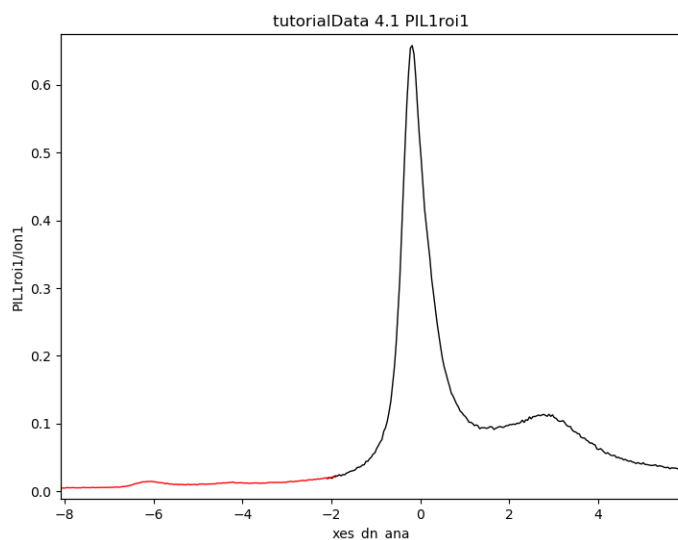

Figure 3-4: A plot showing both a $K\beta$ mainline and VtC spectrum.
- 6) Valence-to-core (VtC) spectra, on the other hand, tend to be a factor of 50 – 100x lower in intensity as compared to K β mainlines. For an illustration of this, click on scan 4 and then hit the “Replace” button in panel C to plot only a single K β mainline. Next, click on scan 7 to also plot a VtC spectrum. As shown in Figure 3-4, the VtC spectrum is **much** weaker than the corresponding mainline!